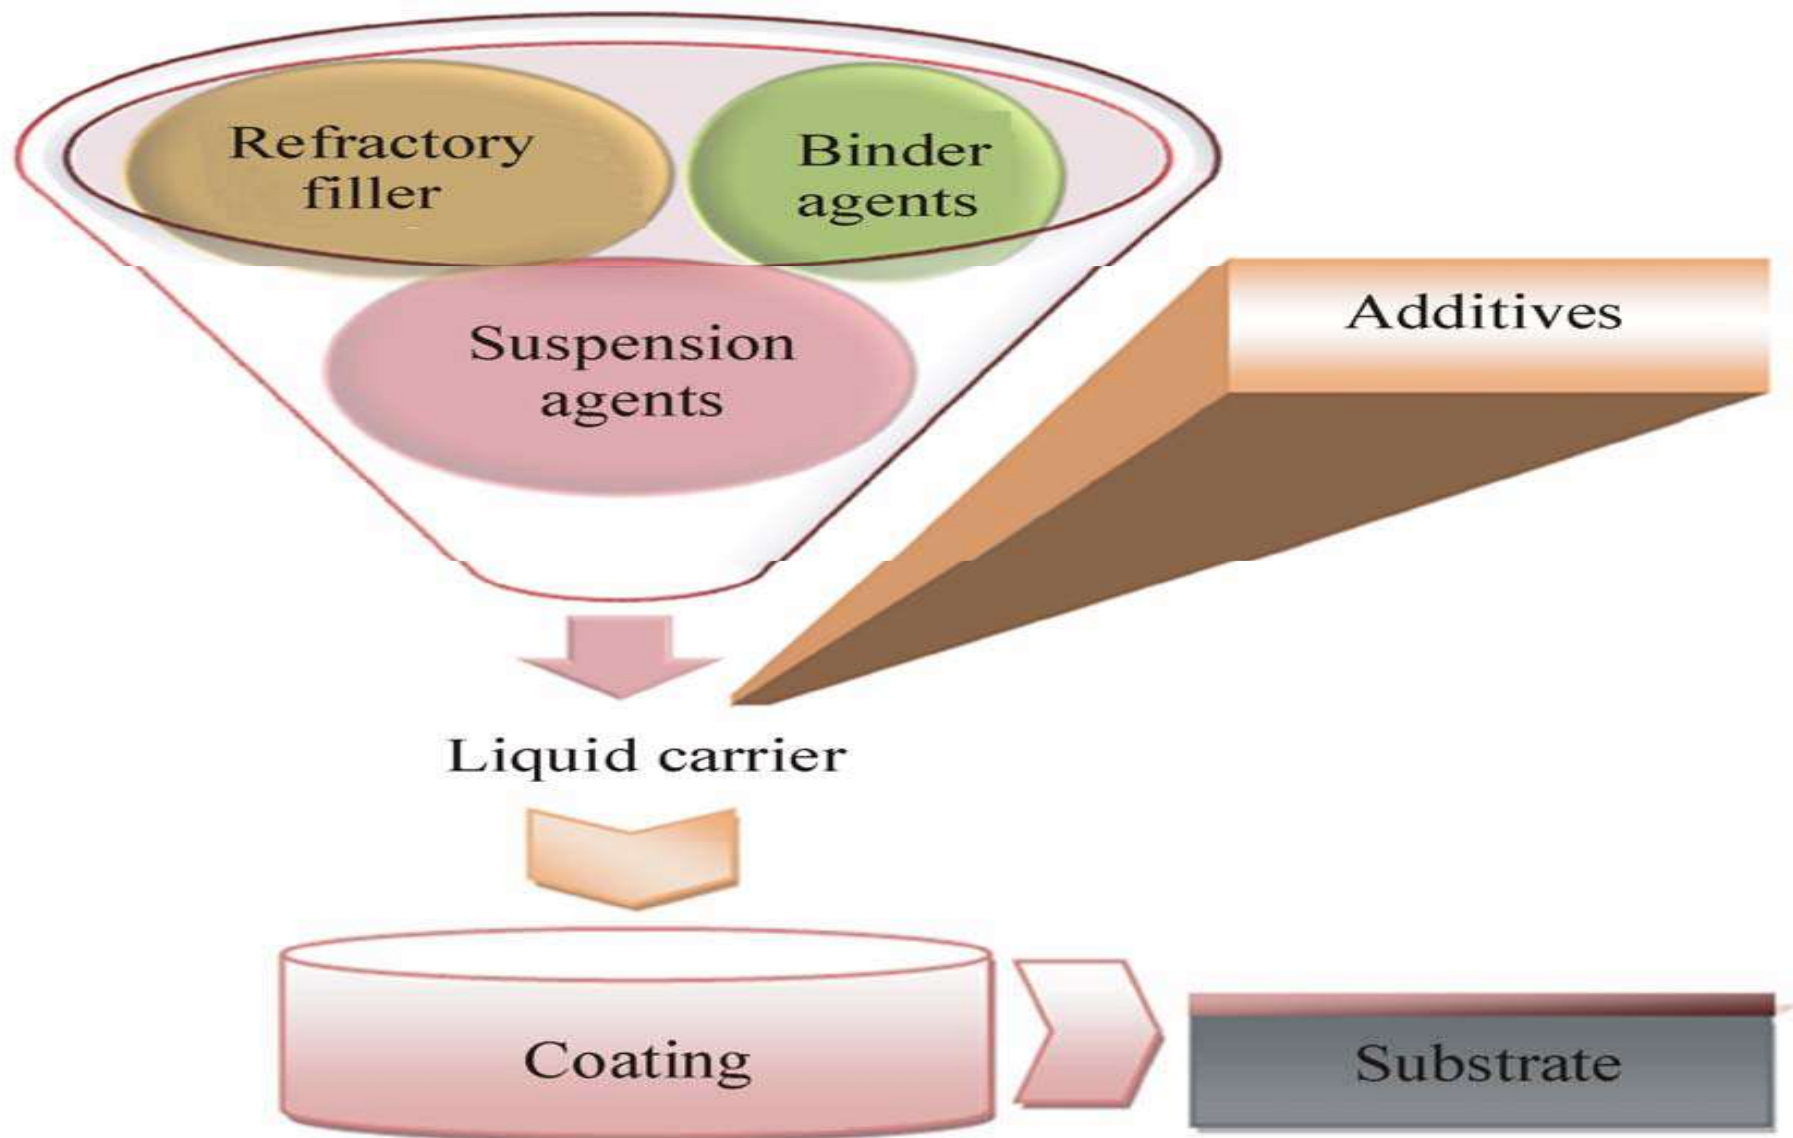

Figure 1
- Additives as shown in Fig. 1 (next slide)